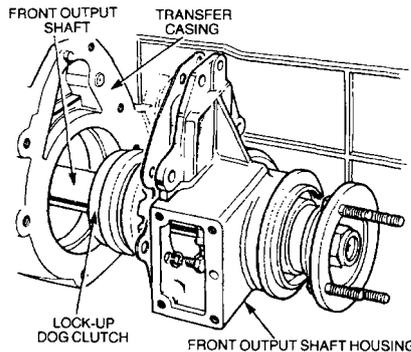

Figure 196 Installing the Front Output Shaft Housing
- ww. Locate a new gasket on the transfer case dowel and install the front output shaft housing. Install the retaining bolts and new lock-washers. Tighten the bolts to 30 N.m (22 lbf.ft) (Figure 196).